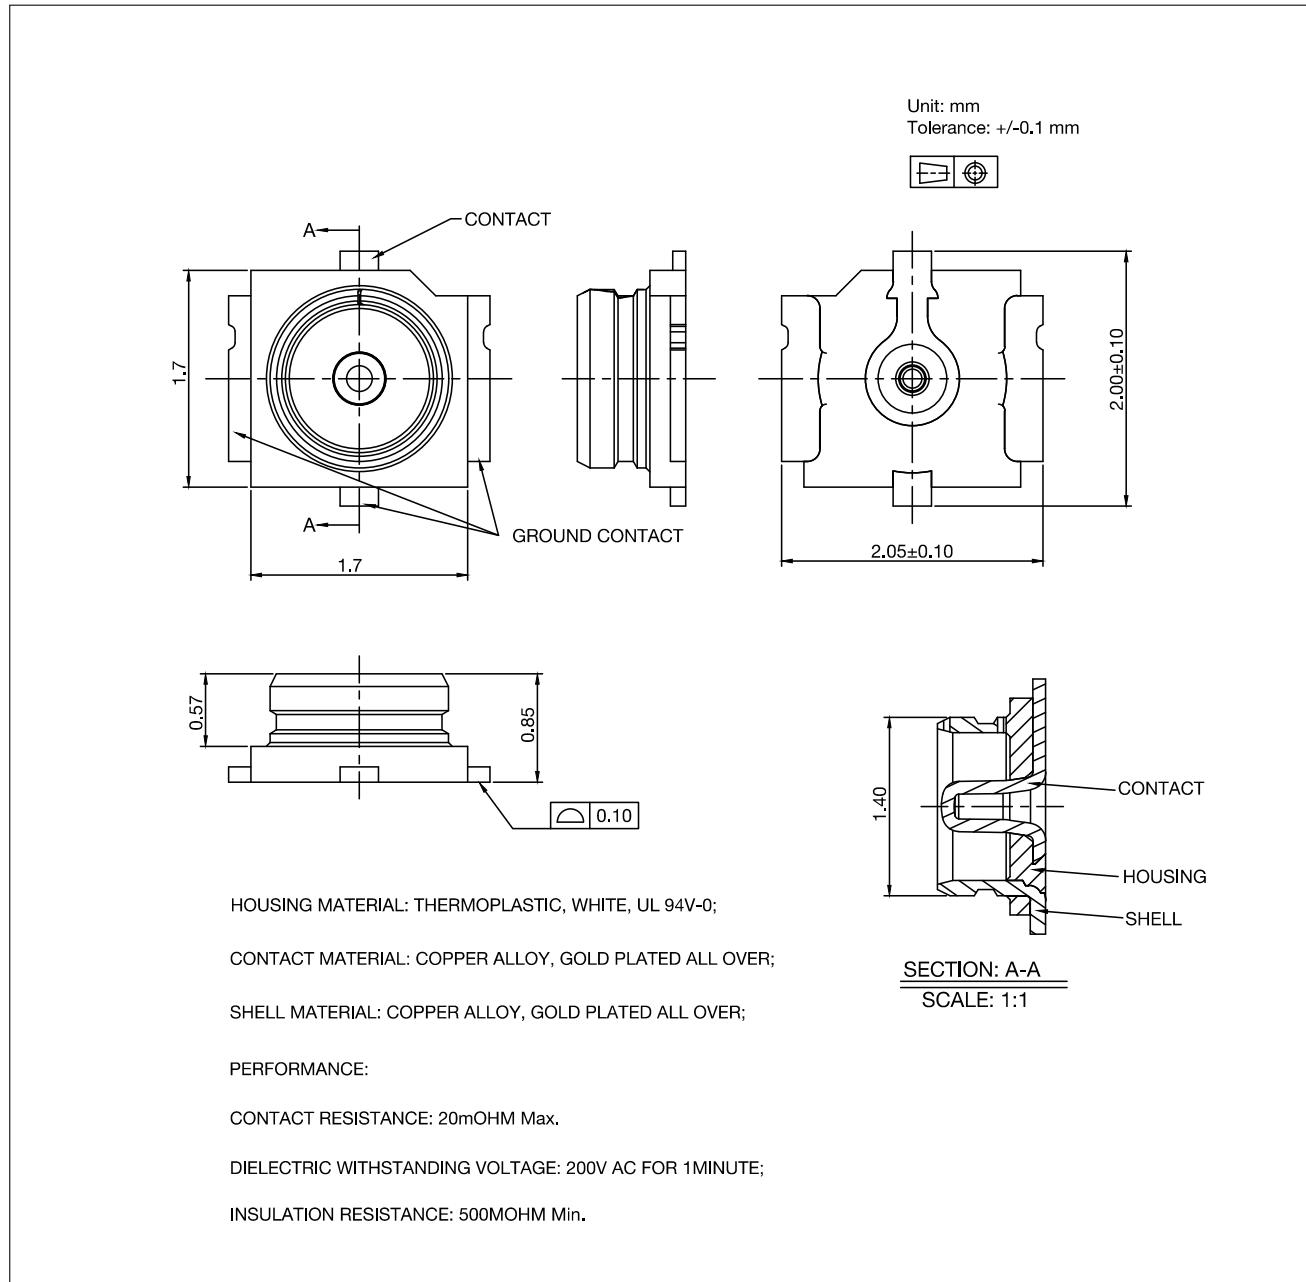

Figure 13: Dimensions of External Antenna Connector
ESP32-PICO-MINI-02U uses the third generation external antenna connector as shown in Figure 13. This connector is compatible with the following connectors:
- The connector matches the specifications shown in Figure 13 *Dimensions of External Antenna Connector*